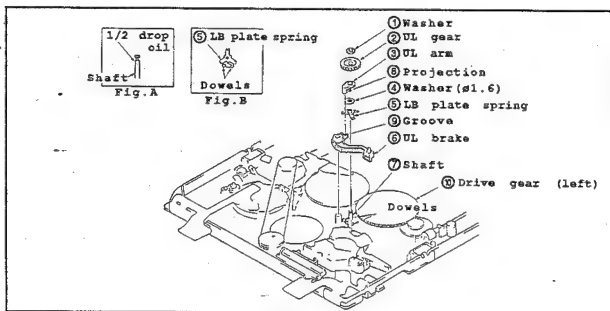

Fig.II-23
• Disassembling (Fig.II-23)
- (1) In the same procedure in "3-13", detach the switch lever.
- (2) To take off the UL gear ②, remove the washer ①.
- (3) Detach the UL arm ③, the washer ④ and the LB plate spring ⑤.
- (4) Take off the UL brake ⑥.
• Reassembling (Fig.II-23)
- (1) Install the UL brake ⑥.
- (2) Apply the 1/2 drop of oil to the shaft ⑦. (Fig. A)
- (3) As shown in the Fig.B, attach the LB plate spring ⑤ to the shaft ⑦. Then, attach the washer ④.
- (4) While matching the projection ⑧ with the groove ⑨ of UL brake ⑥, install UL arm ③ to the shaft ⑦.
- (5) Attach the UL gear ② to the shaft ⑦. Then, mesh it with drive gear (left) ⑩.
- (6) Secure it with the washer ①.
- (7) In the same procedures in "3-13", install the switch lever.
*Note: To prevent the LB plate spring ⑤ damaging, do not secure the washer ① forcibly.